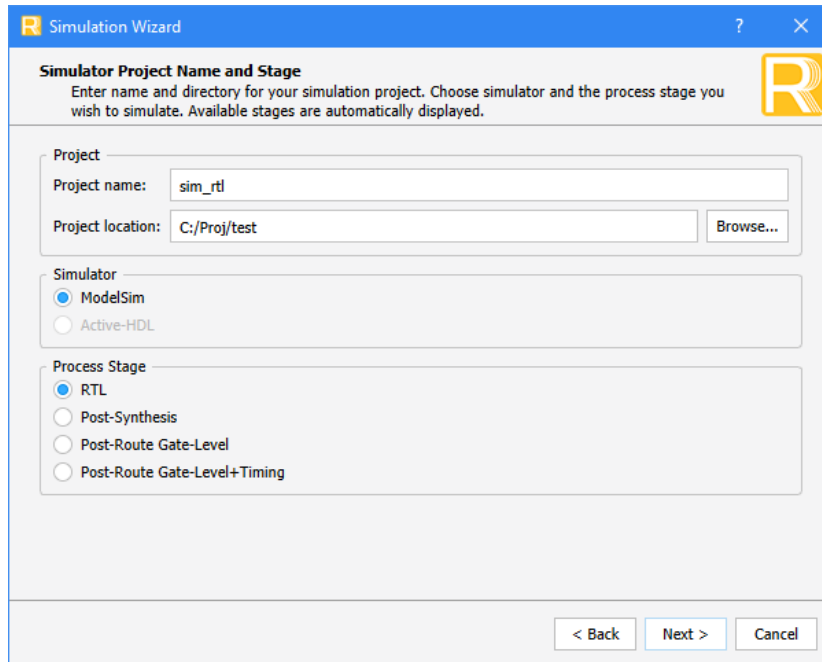

Figure 3.4. Simulation Wizard
1. Click  button located on the **Toolbar** to initiate **Simulation Wizard**, as shown in Figure 3.4.